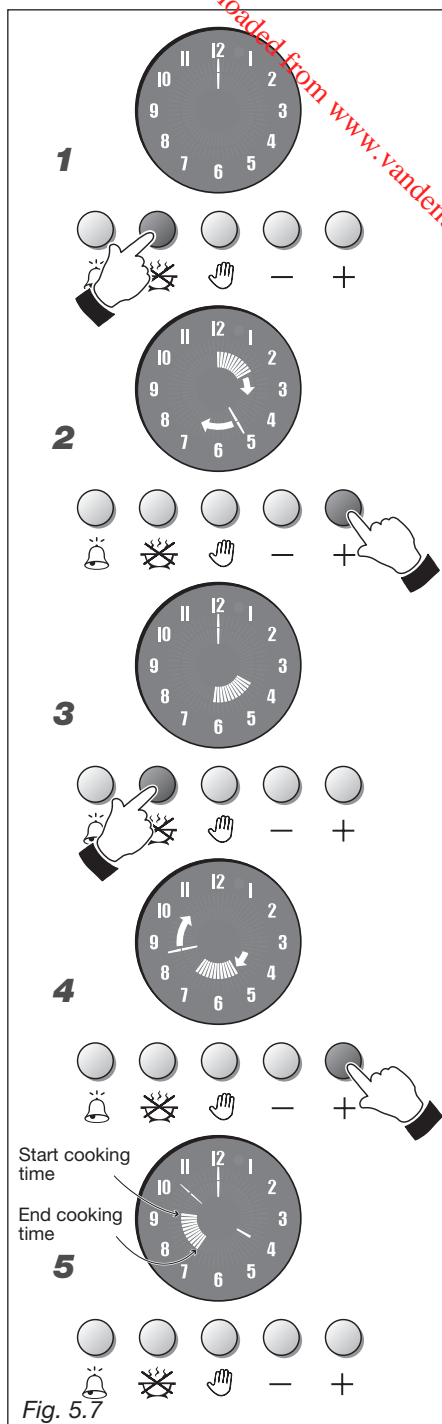

Fig. 5.7
AUTOMATIC COOKING (fig. 5.7)
1. Fig. 5.7 - To set the cooking time (max 6 hours) press button , the electronic clock luminous hands go out and a luminous hand lights up on number 12.
2. Fig. 5.7 - Within 7 seconds press  button and another luminous hand (like seconds and minutes) lights up on the display. Every increasing (additional inner hand) indicates one minute. Moreover every increasing of the 12 minutes is indicated by an inner luminous hand (5 luminous hands indicate one hour). To decrease the required time press  button.
3. Fig. 5.7 - Within 7 seconds press another time  button; the inner luminous hands turn automatically on the time of the day.
4. Fig. 5.7 - Within 7 seconds press  button and position (by pressing the button) the inner luminous hands on the hour when the oven has to start the cooking program. Press button  to decrease.
5. Fig. 5.7 - After 7 seconds the clock luminous hands appear again on the display and the inner luminous hands indicate the programmed cooking time.